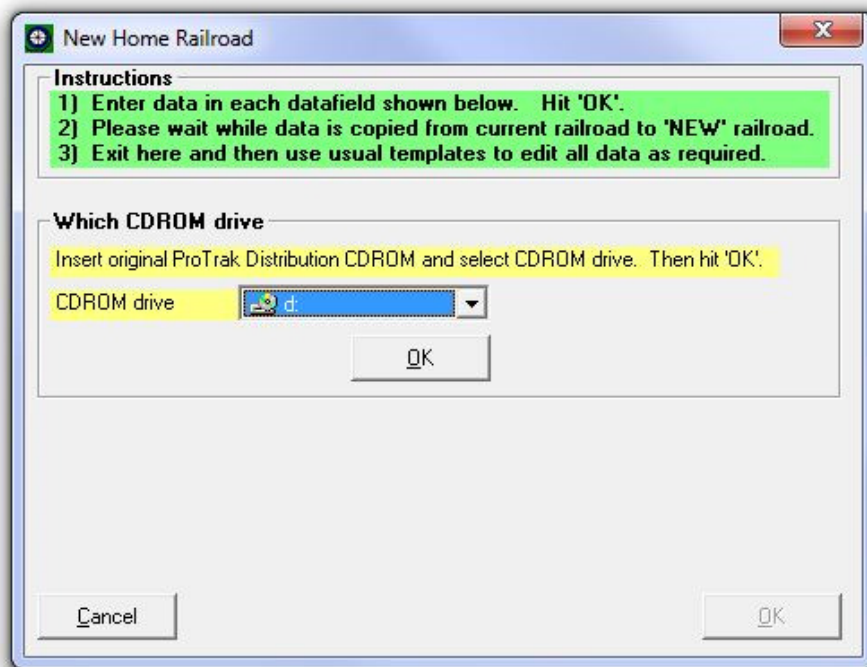

Figure 1-1
1. On the ProTrak toolbar, click on "File" then choose "New Home Railroad..." from the dropdown list ⁽¹⁾. This will bring up the window shown in Figure 1-1.